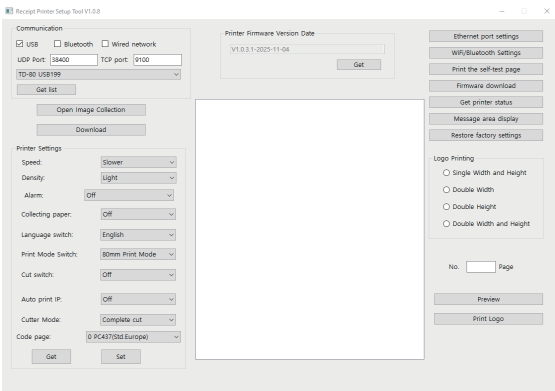

Fig.1
① Keep the USB cable properly connected. Open the setup tool (see Figure 1).